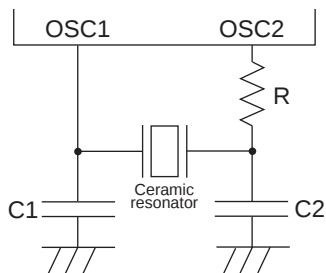

Figure 2 Ceramic resonator OSC circuit
- (*1) When oscillated internally under the oscillating conditions in Fig.2, up to the oscillation amplitude generated is allowable.